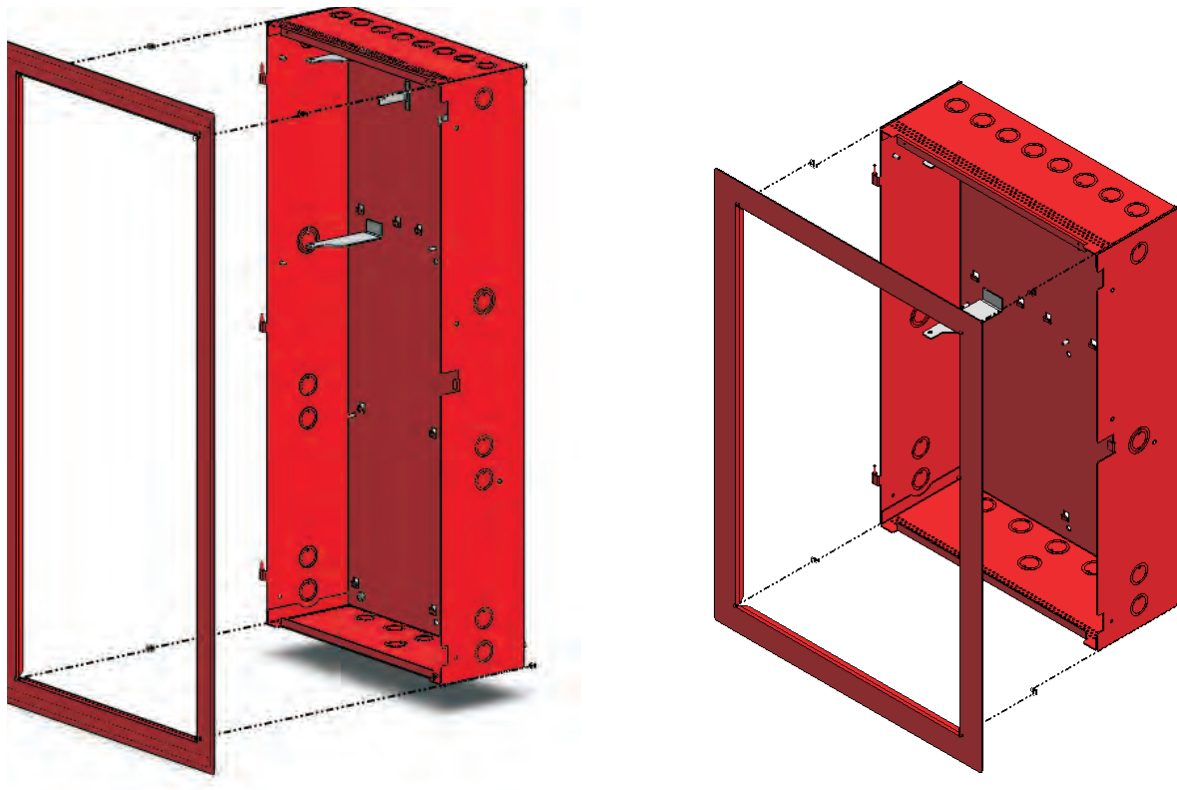

Figure 2-3. Semi-Flush Mounting of 3-Tiered and 2-Tiered Main & Expansion Enclosures
5. Slide trim ring over the enclosure and fasten to wall using the included double-sided tape. Refer to Figure 2-3.